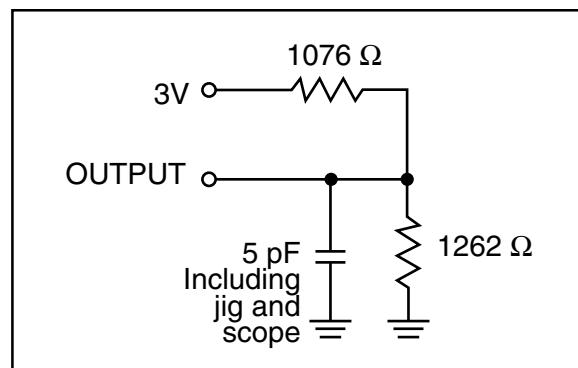

Figure 2.
- Tested with the load in Figure 2. Transition is measured $\pm 500\text{mV}$ from steady-state voltage. Not 100% tested.
3. Tested with the load in Figure 2. Transition is measured ± 500 mV from steady-state voltage.